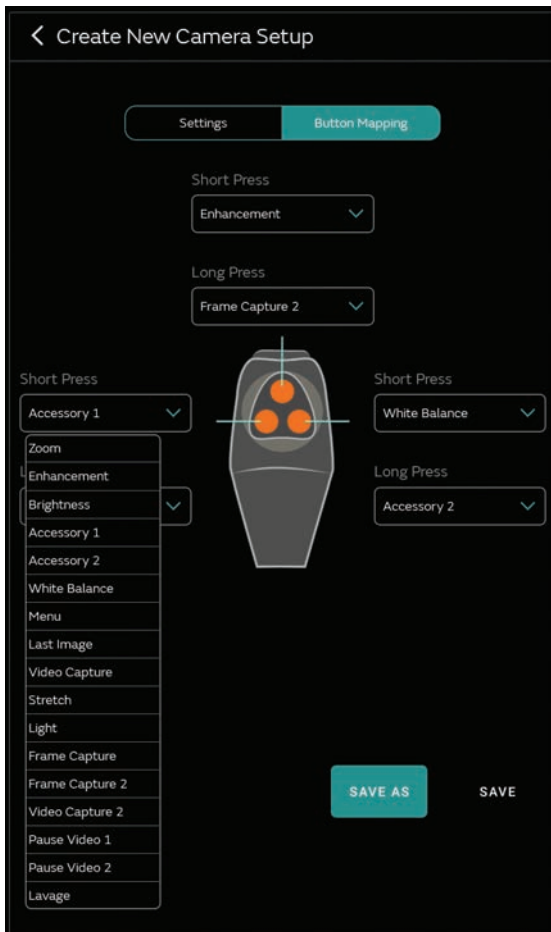

Figure 39. Selecting Button Mapping Functions
- Select which function to associate with each button for each short or long button press (Figure 39).
Note: The Light Mode function on the Camera Control Unit (CCU) is the same as the Standby Toggle label on the INTELLIO® Tablet Button Mapping, (Figure 39). Only the Camera Head controls the Light Mode, not the INTELLIO Tablet.